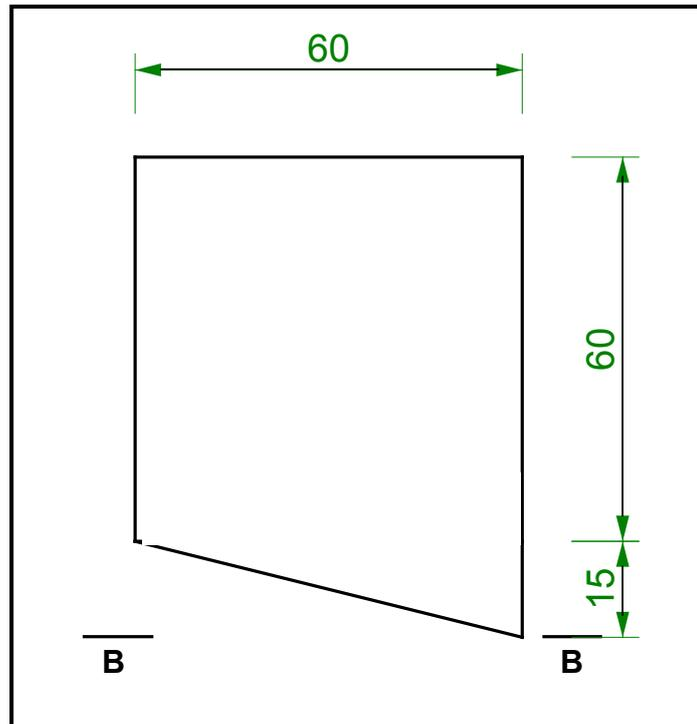

FIGURE 5.1
- 5.1 FIGURE 5.1 shows a lamina. Calculate the position of the centroid of the lamina from B-B.